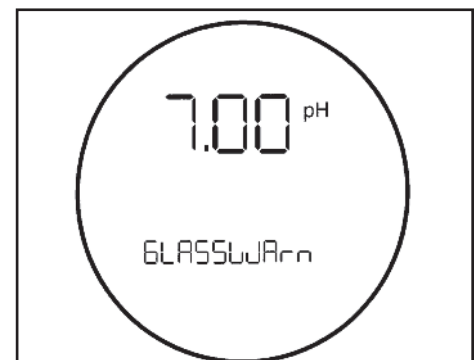

FIGURE 12-1. Warning Annunciation
2. A warning message appears alternately with the temperature display. See Figure 12-1. See Section 12.4 for an explanation of the different warnings and suggested ways of correcting the problem.